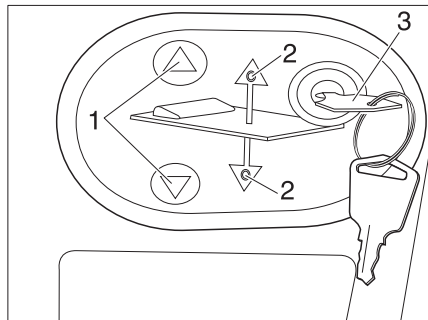

Fig. 150 Operating panel for the electrical pull-down bed
- Insert the key (Fig. 150, 3) into the operating panel (Fig. 150, 2).
- Press the ▼ or ▲ (Fig. 150, 1) button and keep it pressed. The respective LED (Fig. 150, 2) lights up and the pull-down bed moves down or up.
- When the desired position has been reached, release the ▼ or ▲ (Fig. 150, 1) button again. The respective LED (Fig. 150, 2) extinguishes.
- Remove the key (Fig. 150, 3).